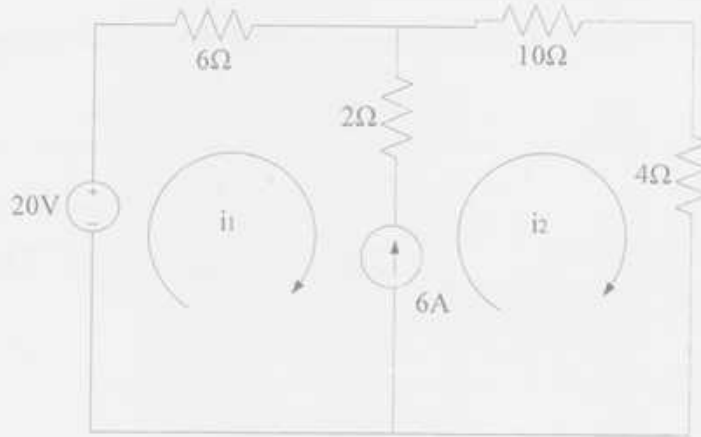

Figure 9
8. a. Use mesh analysis to find i_1 and i_2 in the circuit shown in figure 9 [13]